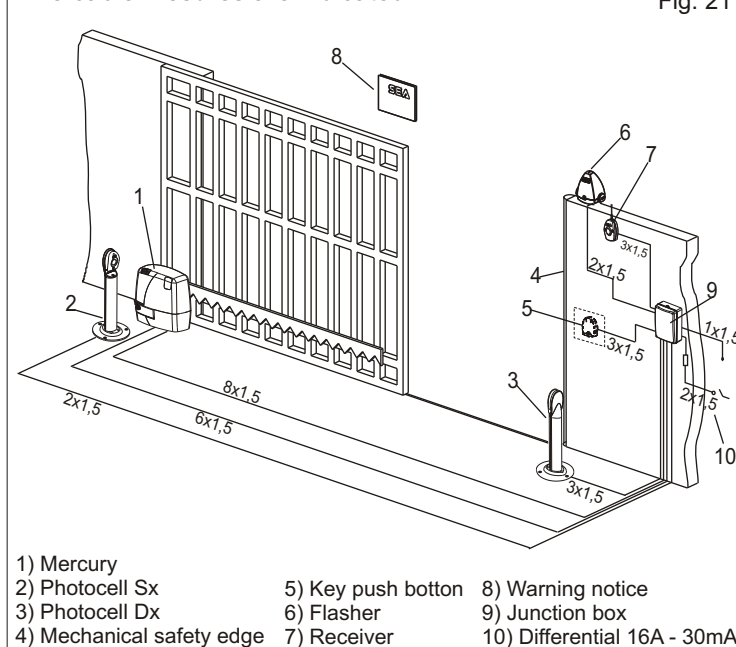

Fig. 21
9. ELECTRIC CONNECTIONS OF THE INSTALLATION (Fig. 21)